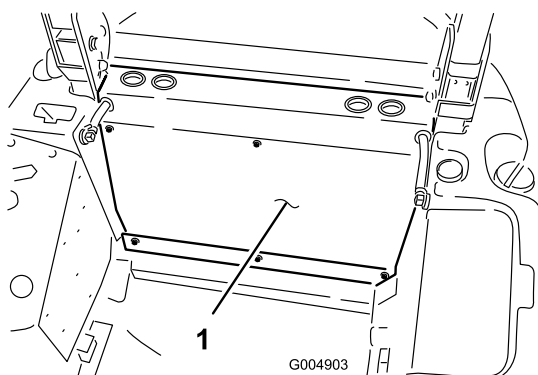

Figure 3
3. Remove the 6 screws securing the rear panel to the frame and remove the rear panel (Figure 3).